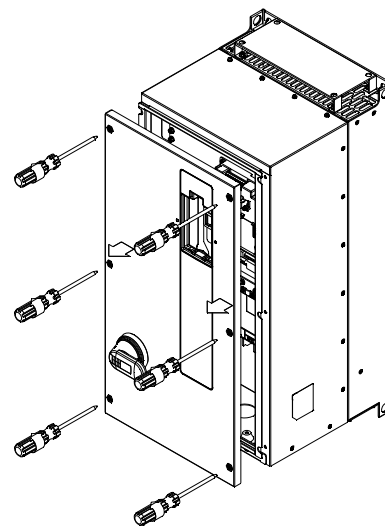

Figure 6-14
- 2) Loosen the screws and press the tabs on both sides to remove the cover. (As shown in figure 6-14)